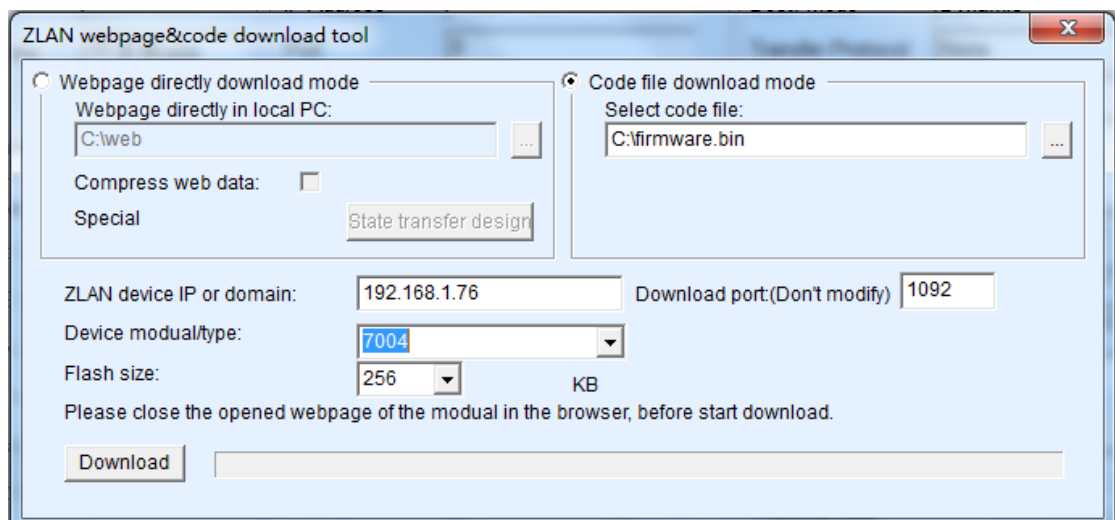

Figure 35 ITT-SR-1RS1FE-WiFi Firmware Upgrade Method
- 4) Select "Code file download mode" as shown in figure 35. In the program file, choose the firmware file. The IP address part of the networking product has been automatically filled out and no further writing is required. The module type/model has been selected automatically. Then click download.
- 8) The configuration pages within the module also need to be updated after the firmware upgraded, otherwise the Web configuration will not be available again. The way to download the Web is: shown as FIG. 35, change the "Code file download mode" to "Webpage directory download mode". And choose the root directory of local Webpage as the file directory for the Webpage file needed to download (the directory can be obtained from ITTELECOM), click on the download, all files in the local Webpage directory will be downloaded to the file system within ITT-SR-1RS1FE-WiFi.